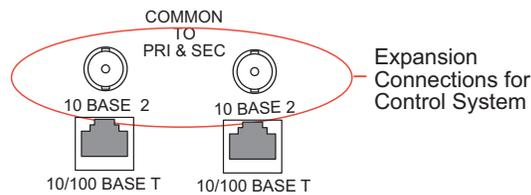

Figure 3-22. Ethernet Expansion Connections to Control System (Rear View)
- 1 Locate the expansion control connection on the rear of the routers, as shown in Figure 3-22. The connections are labeled '10 BASE 2'.